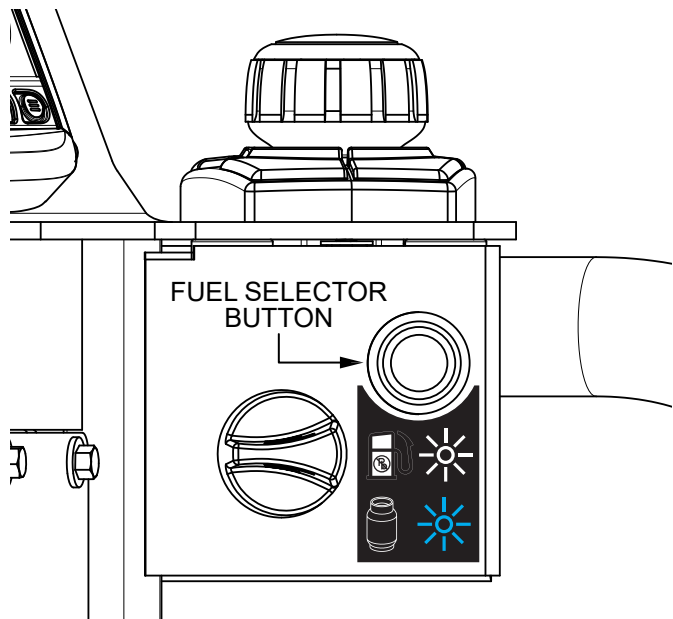

Figure 34. Fuel Selector Button
4. Select **GAS** or **LPG** fuel mode. Press the **fuel selector button** (Figure 34) to toggle between gasoline and LPG fuel systems. The button will illuminate when LPG is selected. The selected fuel system is also shown on the digital display.